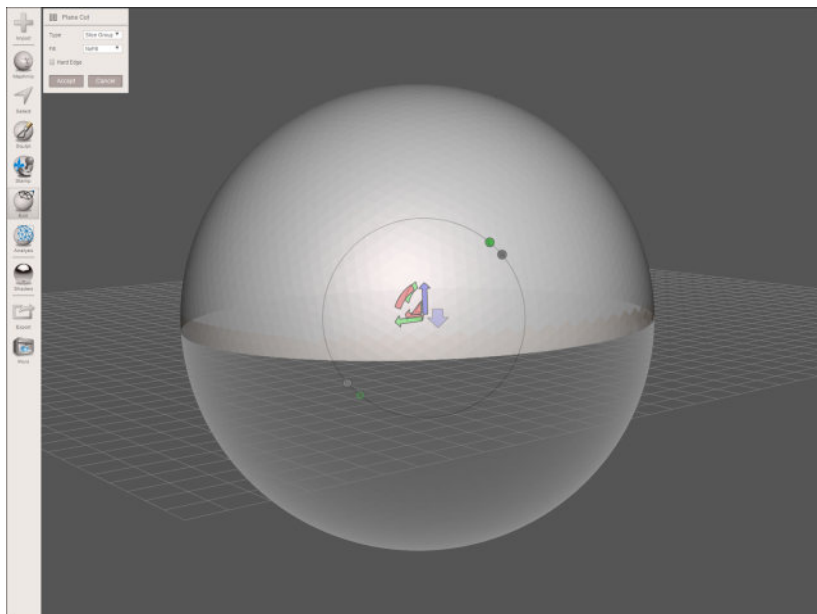

Figure 10-14. *The Plane Cut pop-up window from the Edit menu option*
1. Start by segmenting the sphere a few times. (You'll discover why later on.) Click the Edit button on the lefthand menu and you will see a Plane Cut pop-up window, as shown in Figure 10-14.
You will see a ball that is gray on the top side and colored on the other, as shown in Figure 10-14. The “Slice Groups” command splits the sphere into two separate “FaceGroups.” FaceGroups are simply areas of the mesh that allow you to